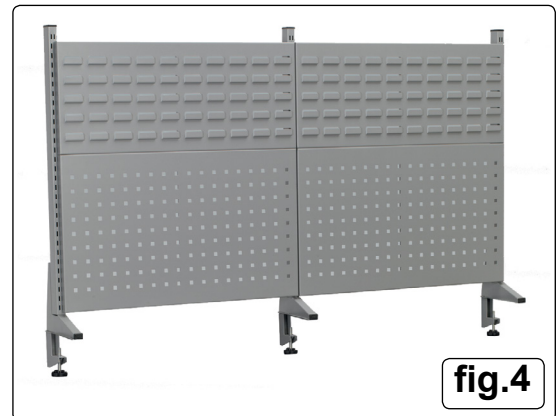

fig.4
6.1. Refer to fig.4
6.2. Take the three back panel supports and clamp them to the back edge of the bench ensuring that a clamping plate is inserted between the clamping knob and the underside of the bench top as shown in fig.5. Adjust the positions of the uprights until the tool panels can be slotted in position followed by the bin panels above them as shown in fig.4. On the outer uprights the back panels should occupy the inner line of slots leaving one row of slots visible.